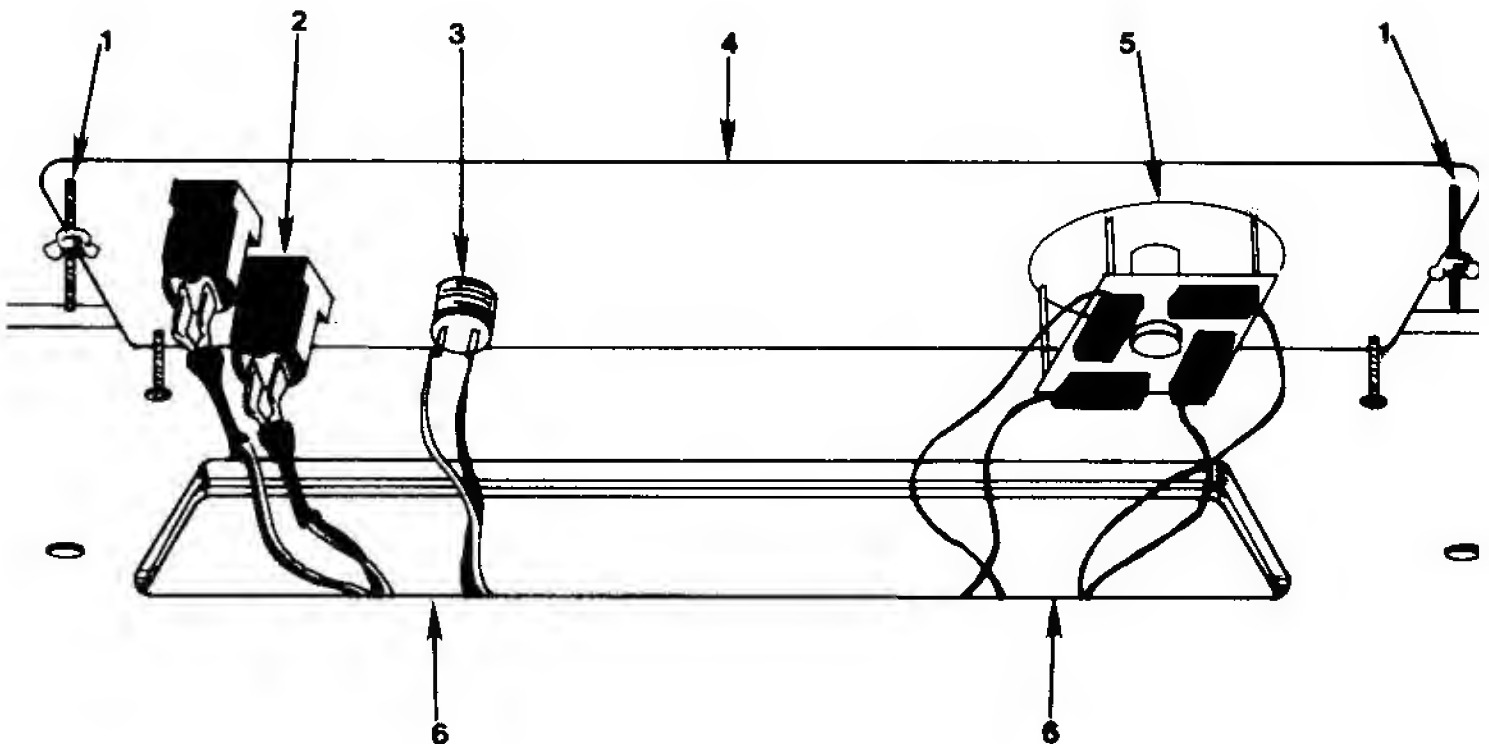

Figure 4. Control Panel
5. From the front of the cabinet, pull the control panel out and down; let it rest on the open coin door as shown in figure 4.